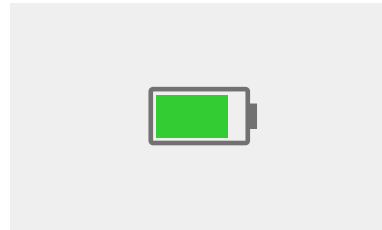

Fig.13
- When charging, the charging status will be displayed on the screen (Fig.13).